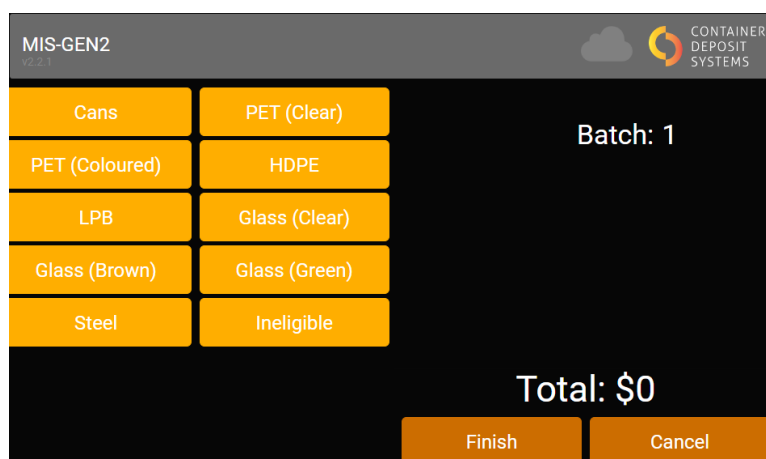

Figure 44. Select Material Type
- The touch screen can then be used to select from a list of eligible container types (figure 44)